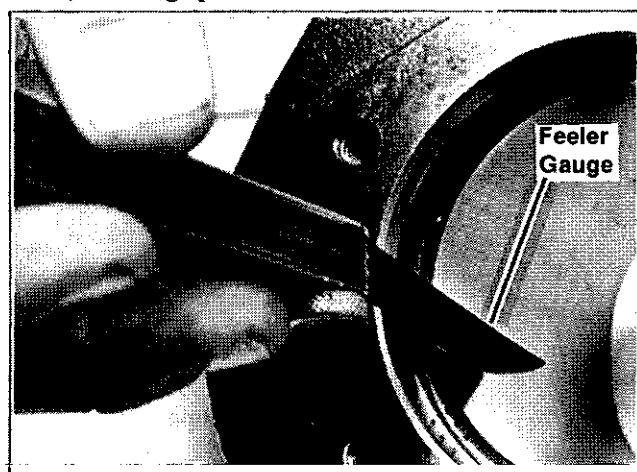

Figure 7-11. Checking Ring End Gap In Bore
3. Before installing new rings on piston, place top two rings each in turn in its running area in cylinder bore and check end gap (see Figure 7-11). This gap should be  $.010"/>.030$  in a used